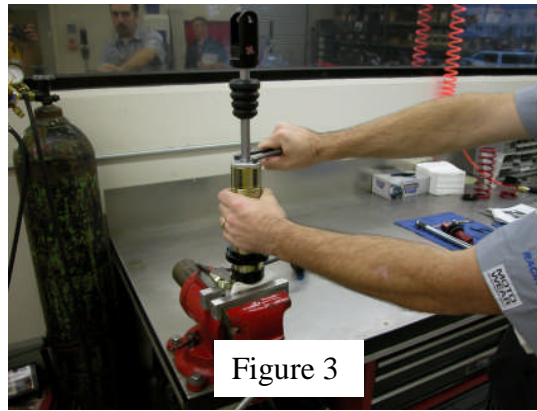

Figure 3
8. Using a 3/32" Hex Key, loosen the bearing cap set screw. Use pin spanner tool to unscrew the bearing cap, and slide the bearing cap up to the bottom-out bumper. (**Figure 3**)